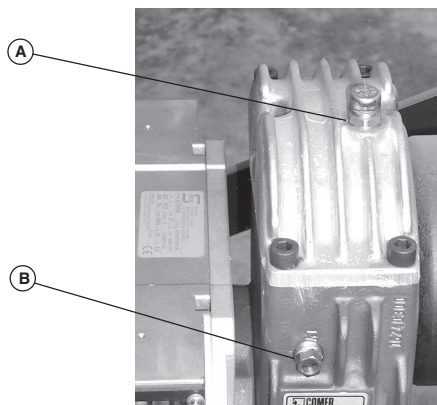

fig. 3
1. unscrew the caps from the holes A and B as in fig.3